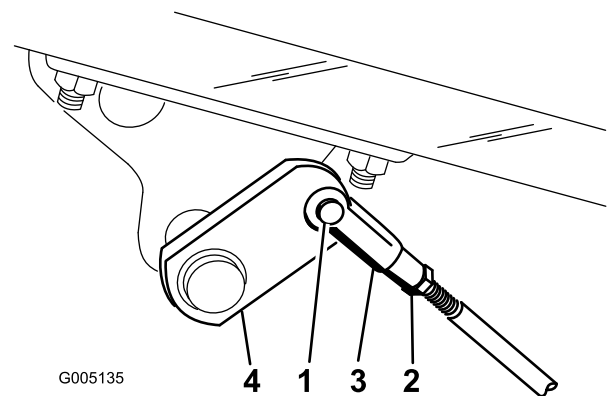

Figure 58
2. If the brakes do not lock equally, disconnect the brake rods by removing the cotter pin and clevis pin (Figure 58).
3. Loosen the jam nut and adjust the clevis accordingly (Figure 58).
4. Assemble the clevis to the brake shaft (Figure 58).